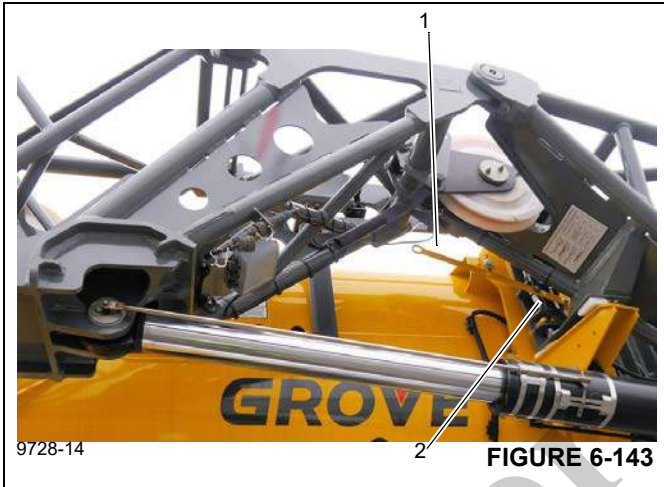

FIGURE 6-143
3. Lift handle (1), (Figure 6-143) to raise pin (2), (Figure 6-143) fully in its bracket. Secure in place. Pushing the handle up manually moves Pin #2 to the locked position, which will retract the interlock cables out of the two pins that the boom extension is swinging on.